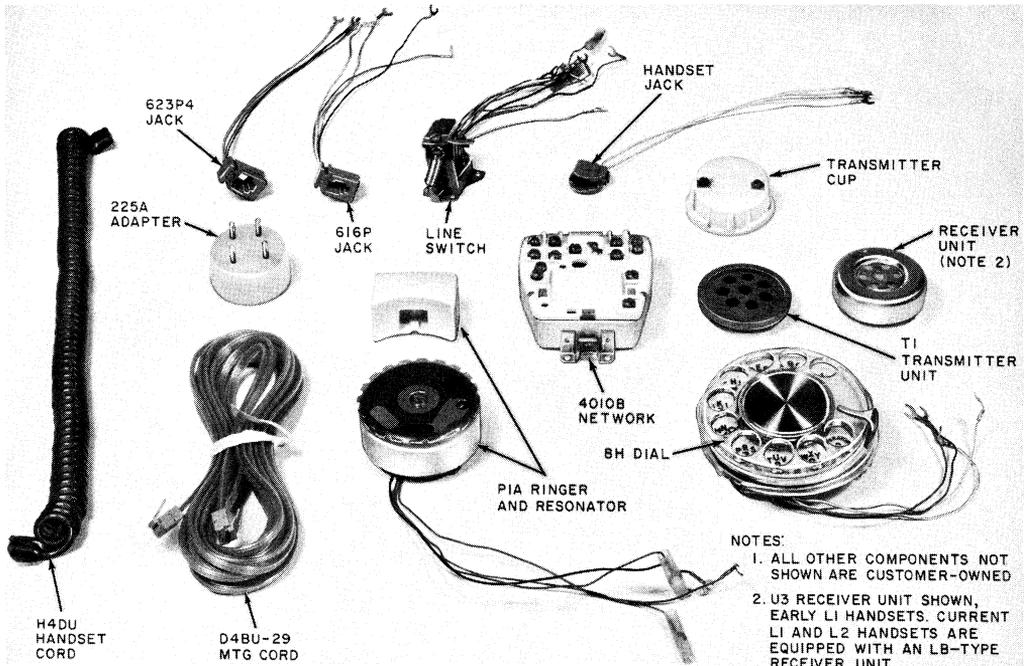

Fig. 4—Telephone Company-Owned Components
- Add new Fig. 4, telephone company-owned components
◆**Note:** Remove the telephone company-owned components that are screwed to the base or can otherwise be easily removed. Refer to Fig. 4 for identification of company-owned components.◆